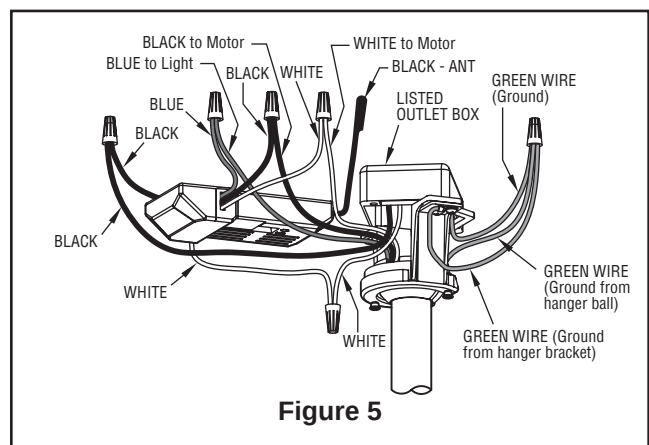

Figure 5
- ☐ 5. Reinstall the hanger ball on the downrod as follows. Route the three 80-inch wires through the hanger ball. Position the pin through the two holes in the downrod and align the hanger ball so the pin is captured in the groove in the top of the hanger ball. Pull the hanger ball up tight against the pin. Securely tighten the set screw in the hanger ball. A loose set screw could create fan wobble (Figure 5).
- ☐ 4. Connect green wires from hanger bracket and hanger ball to bare (ground) wire using wire connector supplied. Connect black wire from receiver unit marked "AC IN L" to black supply wire using wire connector supplied. Connect white wire from receiver unit marked "AC IN N" to white supply wire using wire connector supplied. Connect white wire from receiver unit marked "TO MOTOR N" to white wire from fan using wire connector supplied with receiver. Connect black wire from receiver unit marked "TO MOTOR L" to black wire from fan using wire connector supplied. Lastly, connect blue wire from receiver to the blue fan light wire using wire connector supplied. Position all connected wires and receiver antenna to allow installation of ceiling canopy (Figure 5).
- ☐ 5. Remove one of the three screws in the plate assembly. Slightly loosen the remaining two screws. Assemble the socket plate to the adapter plate assembly using the two key slots. Replace the third screw and securely tighten all three screws (Figure 5).